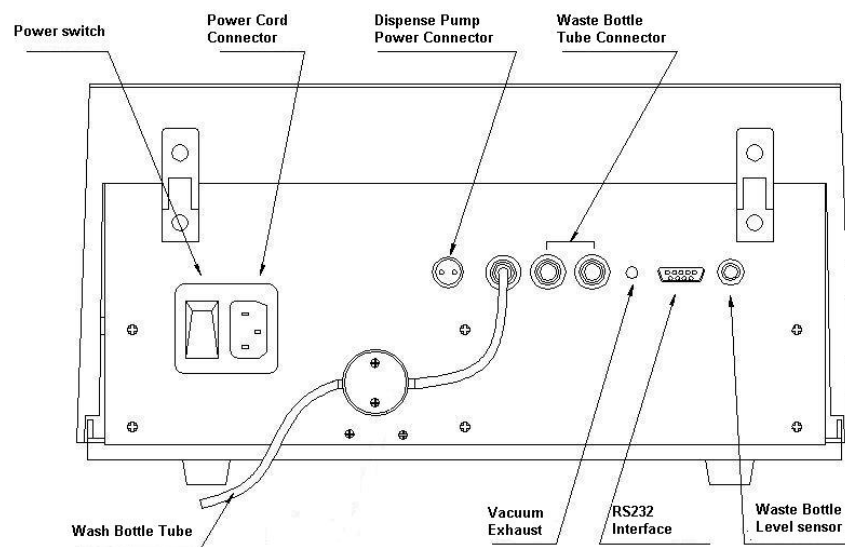

Figure 2.Rear View of the Washer system
Connectors at the rear of the Washer system are shown in Figure 2.
4. Connect the end of the wash tube to the Wash Bottle Tube connector at the rear of the instrument(Figure 2).
5. Connect the dispense pump power cable to the dispense pump power connector at the rear of the instrument(Figure 2).